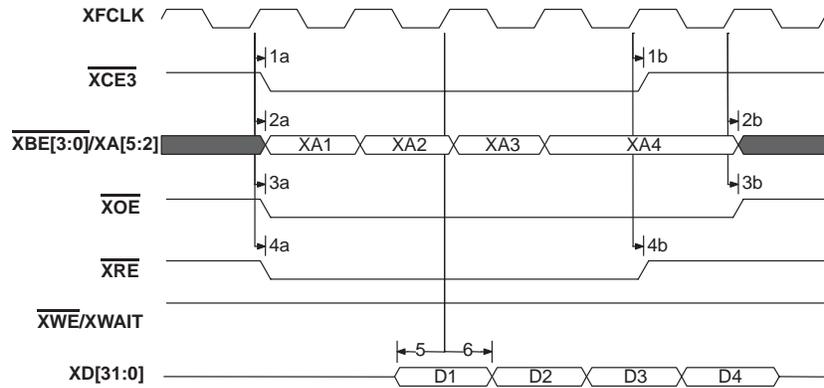
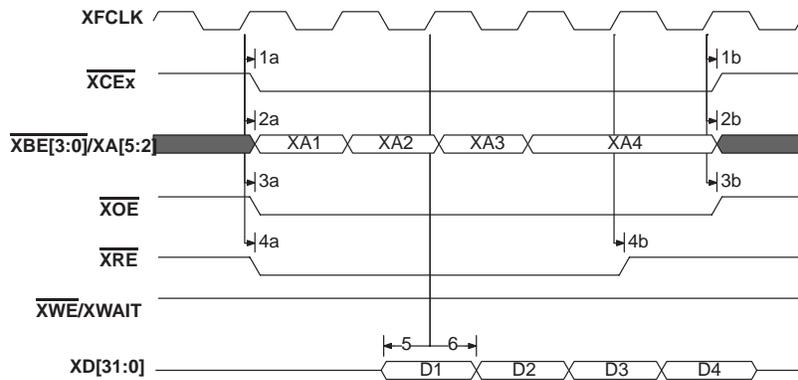

Figure 7. FIFO Read Timing, Glueless Read Mode
Figure 8. FIFO Read Timing
- \overline{XCE} high-to-low transition after XFCLK high (Parameter 1a in Figure 7 and Figure 8)
- $\overline{XBE}/XA[5:2]$ valid after XFCLK high (Parameter 2a in Figure 7 and Figure 8)
- \overline{XOE} high-to-low transition after XFCLK high (Parameter 3a in Figure 7 and Figure 8)
- \overline{XRE} high-to-low transition after XFCLK high (Parameter 4a in Figure 7 and Figure 8)
- \overline{XCE} low-to-high transition after XFCLK high (Parameter 1b in Figure 7 and Figure 8)
- $\overline{XBE}/XA[5:2]$ invalid after XFCLK high (Parameter 2b in Figure 7 and Figure 8)
- \overline{XOE} low-to-high transition after XFCLK high (Parameter 3b in Figure 7 and Figure 8)
- \overline{XRE} low-to-high transition after XFCLK high (Parameter 4b in Figure 7 and Figure 8)